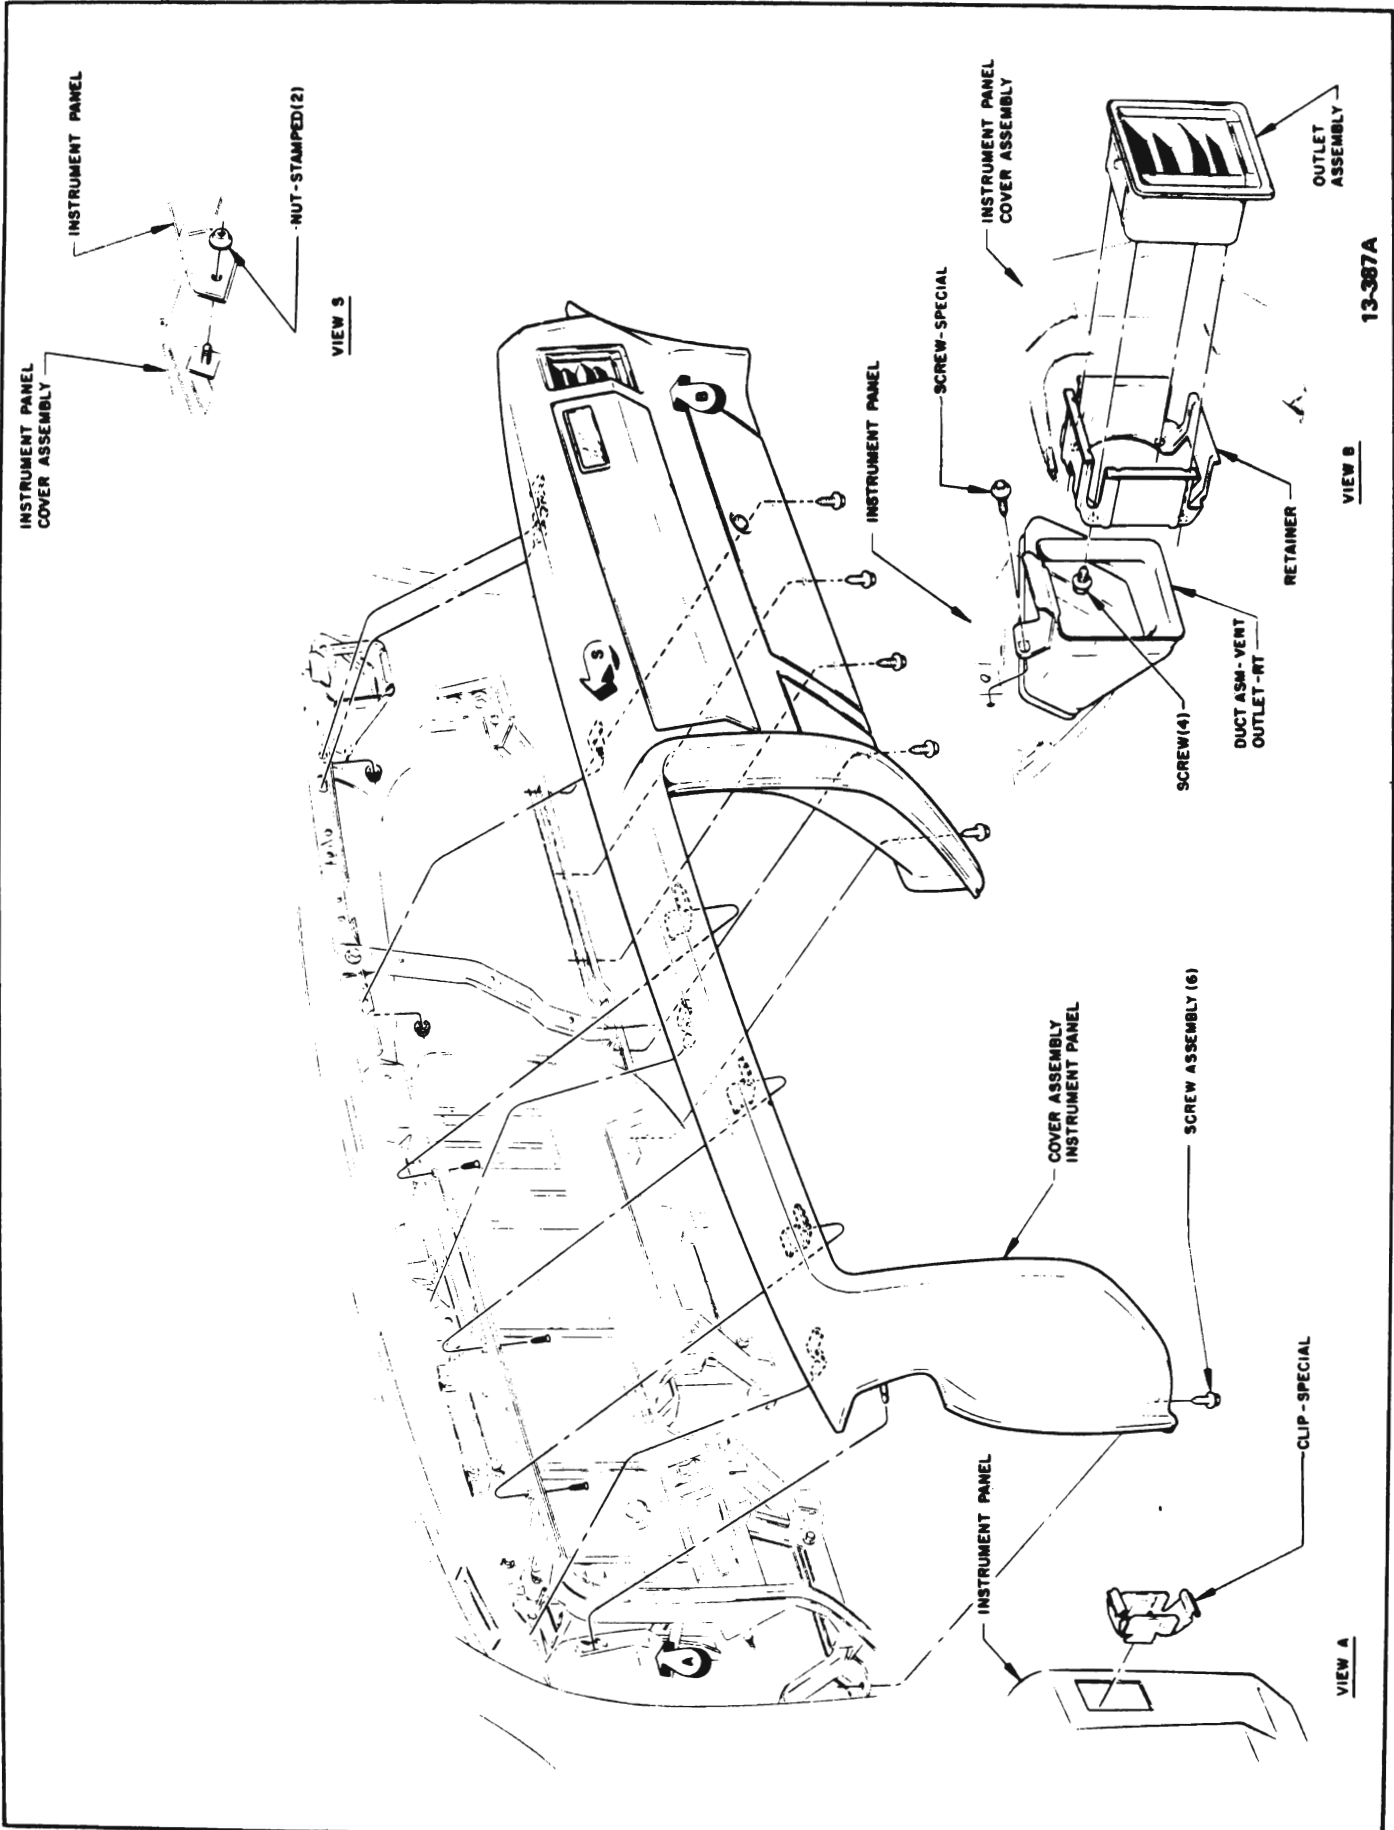

Figure 13-201 45-46-48000 Series
1. a. (45-46-48000 Series) Remove instrument panel cover. See Figure 13-201.